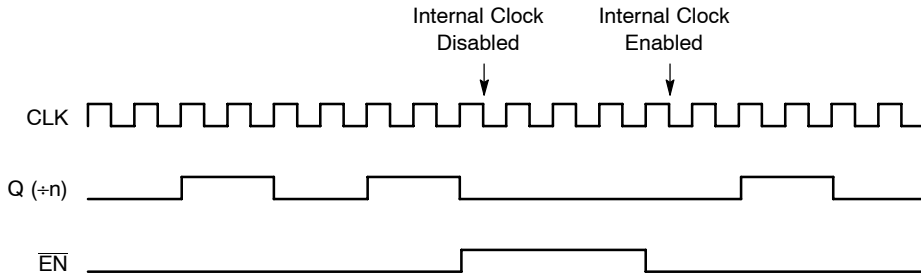

**Figure 6. Timing Diagram**
**Differential Input Driven Single-Ended (see Figures 6 & 8)**